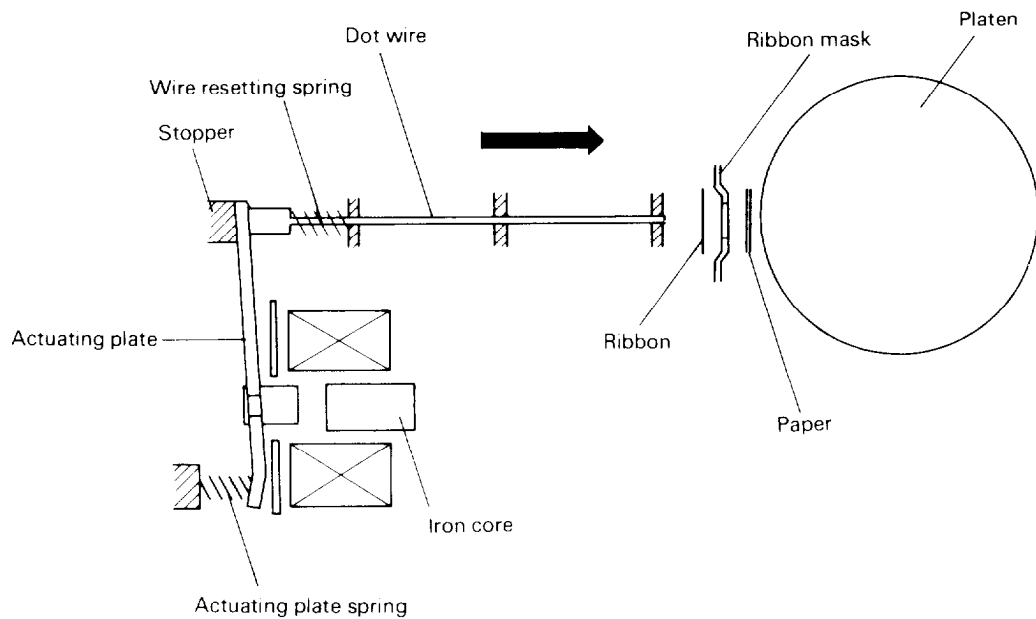

Fig. 2.44 Print mechanism
2) Operation of print head unit (Fig. 2.44)